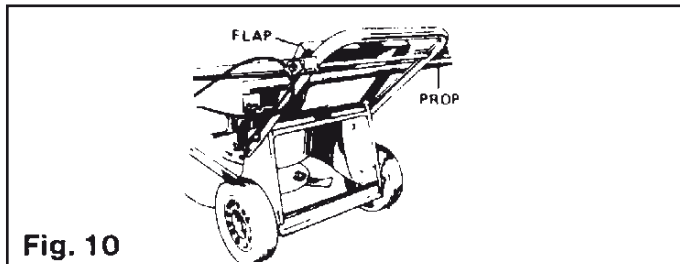

Fig. 10
3. To access blades lift FLAP and PROP with broom handle or garden stake. (Fig. 10)